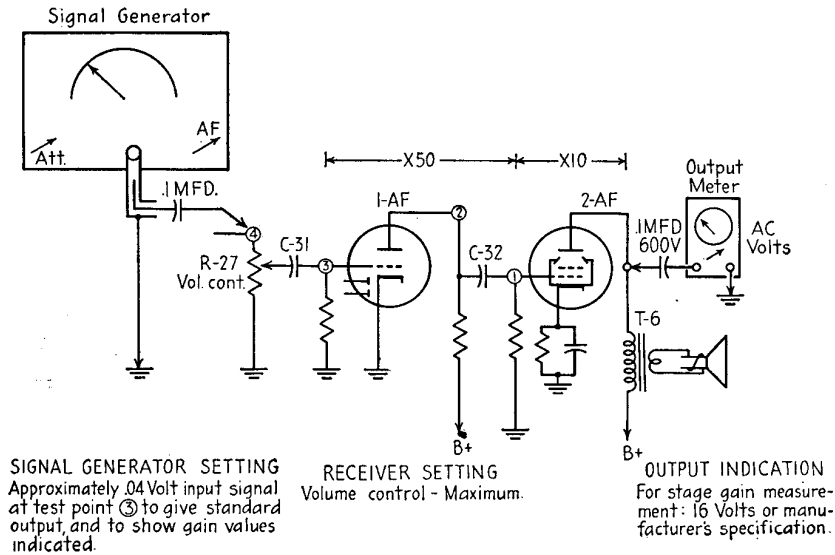

Fig. 11-8.—Audio stage-gain measurements.
Stage-gain Measurements.—Now, having established standard output, let us make some gain checks on a receiver known to be perfect to determine how this information may be used in later servicing. Figure 11-8 shows the audio amplifier of the standard receiver. The output meter and the AF output of the signal generator are connected to make gain checks. The condenser in the hot lead of the signal generator (which may be connected internally) serves to keep DC plate potentials out of the signal generator circuit when the hot
The gain per stage is approximately 50 for the first AF stage and 10 for the second AF stage, as is indicated in Fig. 11-8. Now let us assume our test bench works to a reference level of 20 volts as standard output indication. Then when the hot lead of the signal generator is connected to point ①, the second AF grid, a 2-volt signal will be needed to give standard output from this point, since 2 volts input times 10, the amplification of the stage, equals 20 volts output. It is not necessary to measure the input signal voltage. Accurate stage-gain measurements would call for expensive test equipment and, although this would be of advantage in design engineering, service work to find a poorly operating stage does not require any-